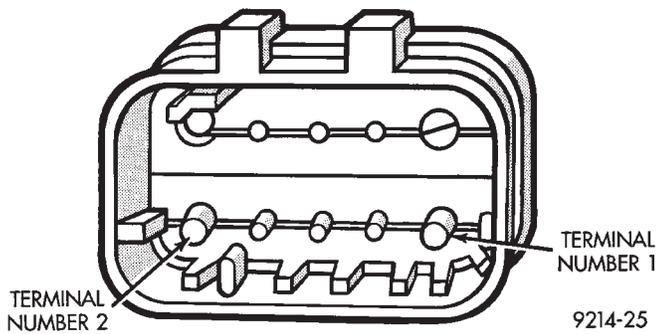

Fig. 1 Injector Harness Connector
- (c) Connect a jumper wire to ground terminal Number 1 of the injector harness (Fig. 1) to engine ground.
- (d) Connect a jumper wire to the positive terminal Number 2 of the injector harness (Fig. 1) and touch the battery positive post for no longer than 5 seconds. This releases system pressure.